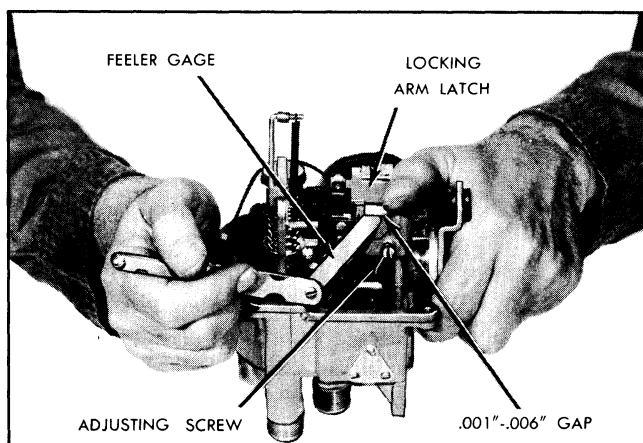

Fig. 12-43 Locking Arm Latch Adjustment
5. Use a feeler gauge to measure gap between locking arm and latch on armature plate (Fig. 12-43). This gap must be between .001"-.006". If gap is not within specifications, adjust gap by turning adjusting screw counterclockwise to increase gap or clockwise to decrease gap.